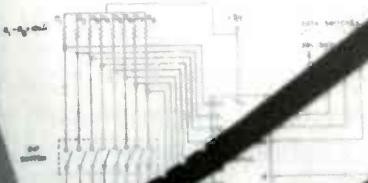
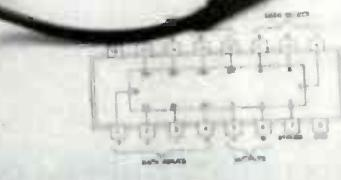

Fig. 16. Circuit for Experiment 2.
Fig. 17. Pin diagram for 74151A.
Figure 16 shows the circuit diagram for this experiment. You'll use the numbers for the IC and 3 included on the diagram. For the 74151A, you'll refer to Fig. 17, while for experiment 74151A data. For the switches, you'll use an eight-pole DIP switch in conjunction with 10 kΩ pull-up resistors. For the Select and Strobe lines, finally, you'll use the logic level switches.
4. Next connect the logic data switches to the Select and Strobe lines on the IC using Fig. 17 as a guide. Finally, connect the SW10 to the 74151A IC.